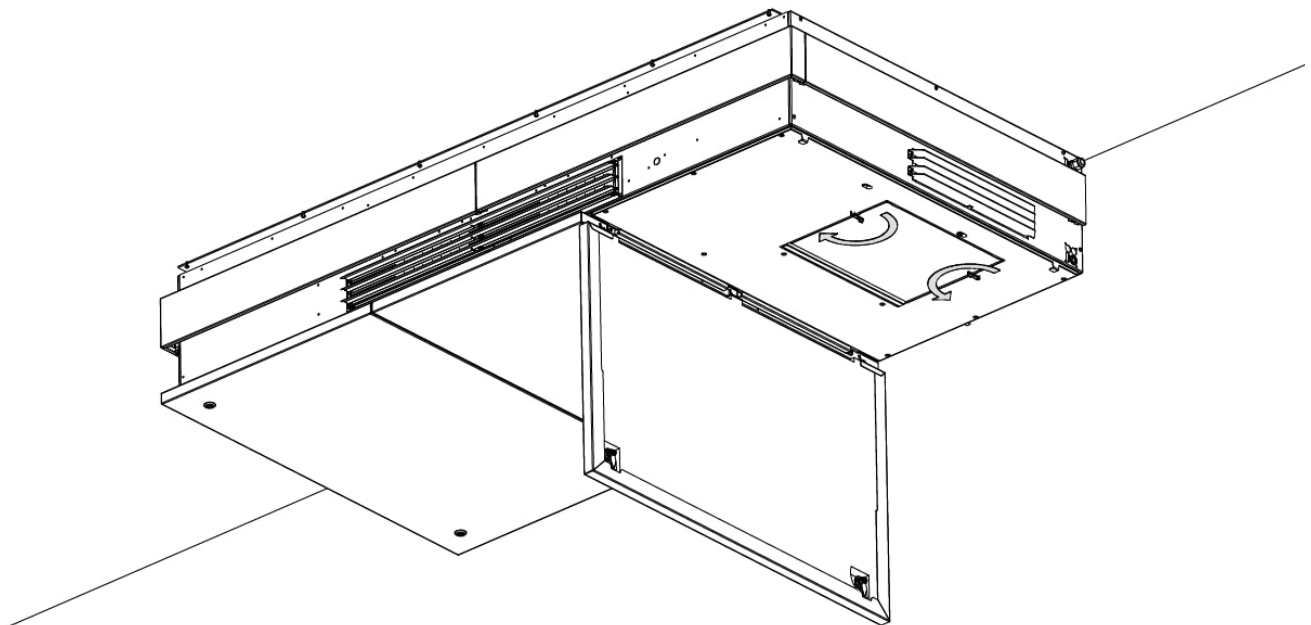

Figure 9: Open the filter hatch
2. Open the filter hatch, see Figure 9.